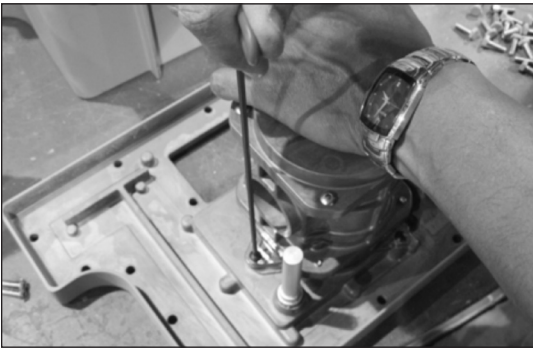

Figure 9.42 - Install new cartridge
- Using a 1/8" Allen wrench, reinstall and snug the three #10-24 x 1/2" button head screws holding the measurement cartridge to the front enclosure as shown in Figure 9.42. Tighten the screws to 10-12 in lbs torque. Use a torque wrench when actually tightening the screws.